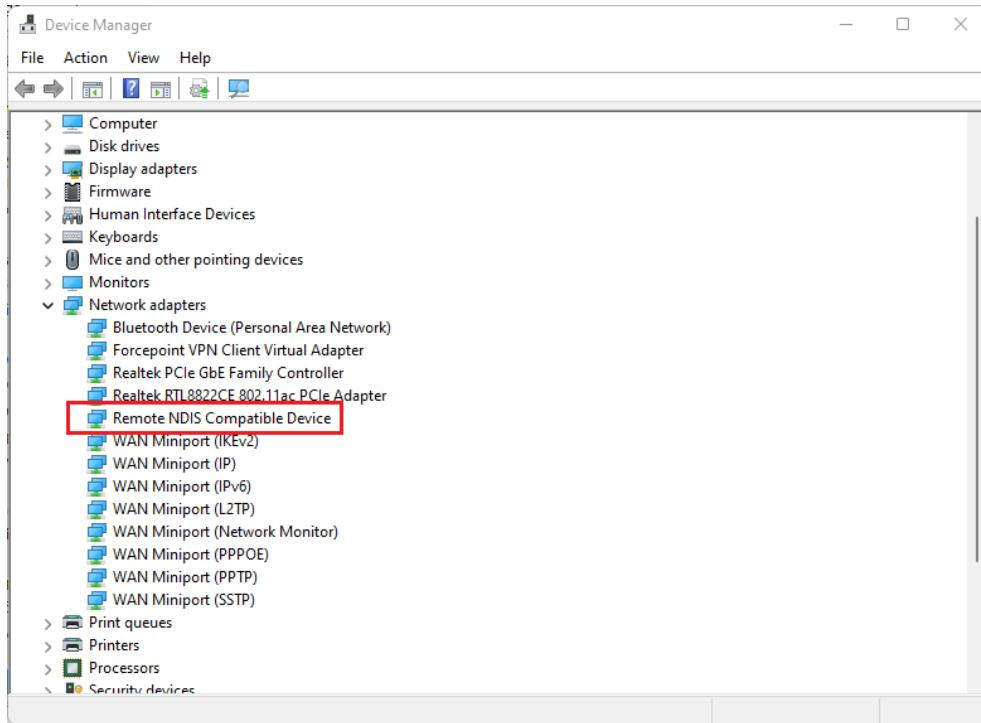

Fig. 8.9: Device manager window showing the USB gadget connection.
2. A new Ethernet connection should appear in the Device Manager, as shown in **Fig. 8.9**.